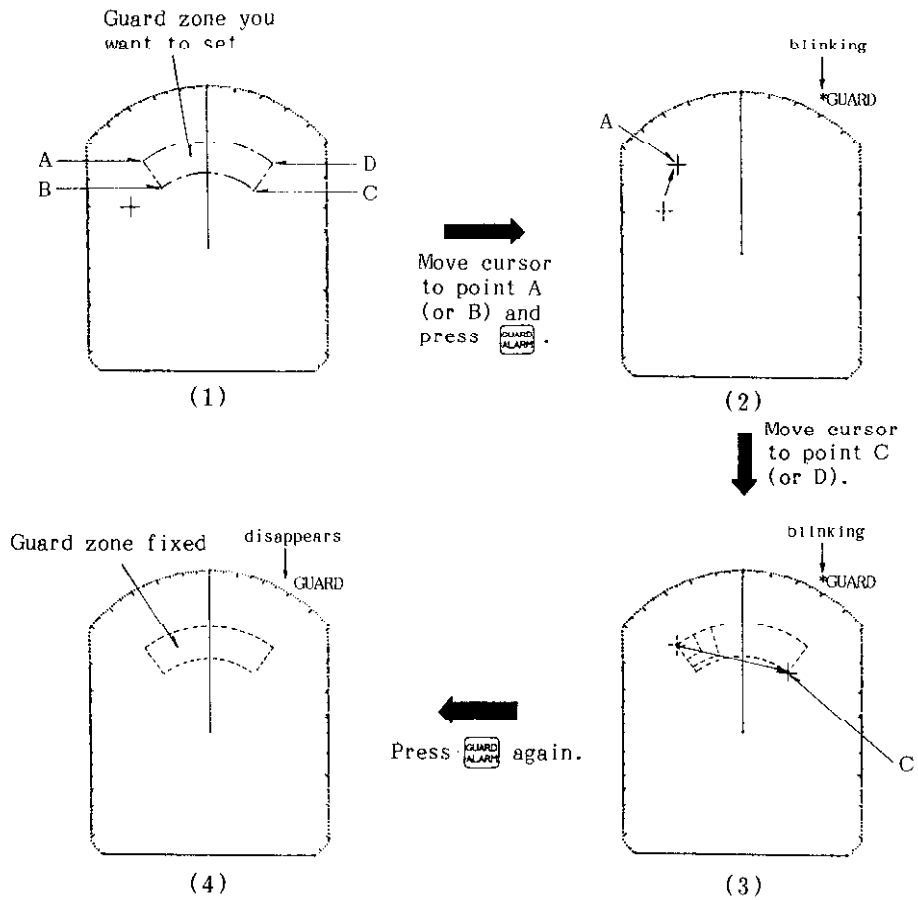

Fig.31 Setting Guard Zone
1. Mentally create the guard zone you want to display on-screen. See Fig.31 (1).
2. Designate the upper (lower) left edge of the guard zone with the cursor. Press the  touchpad, and the indicator "\*GUARD" (asterisk blinking) appears at the upper right-hand side of the screen. The asterisk indicates the guard zone is partially set; but the alarm function has been actuated. See Fig.31 (2).
3. Moving the trackball clockwise, designate the lower (upper) right edge of the guard zone. The guard zone (fan-shaped) now appears on the display screen. See Fig.31 (3).
4. Press the  touchpad again. The asterisk disappears, indicating the guard zone is completely actuated. See Fig.31 (4).